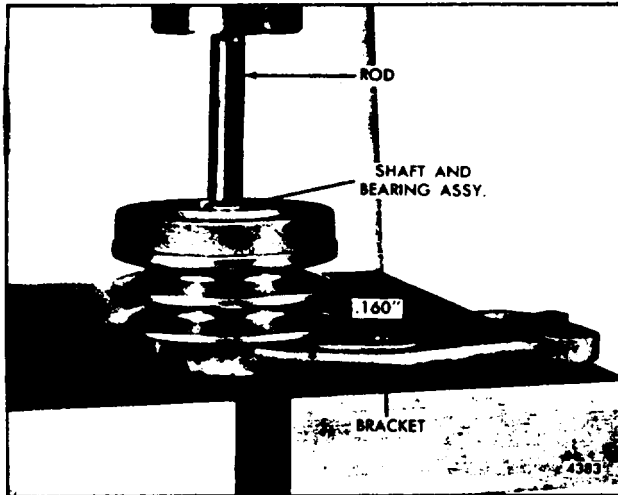

Fig. 4. - Installing Shaft and Bearing Assembly and Pulley in Bracket
2. With a short rod, apply pressure on the shaft only (Fig. 4) and press the shaft and bearing assembly with the pulley into the idler pulley bracket. The distance between the outer edge of the pulley and the bracket must be .160" .